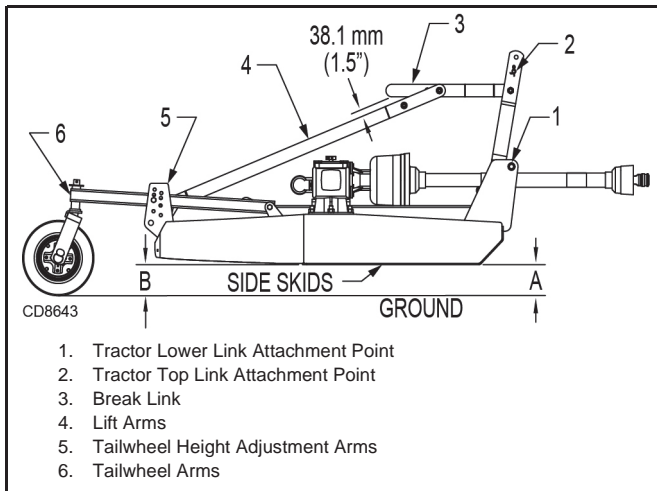

Figure 9. Cutting Height Adjustment
Loosen the jam nut on the attitude rod that runs from the tongue to the tailwheel. Adjust rod in or out until position B is approximately 6.4 to 12.7 mm (1/4 to 1/2 inches) more than position A. Refer to Figure 9.
Adjust tractor 3-point hitch to obtain a distance of 69.9 mm (2-3/4 inches) at position "A" to obtain a 101.6 mm (4") cutting height. See Figure 9.
Adjust top link to provide 38.1 mm (1-1/2") of clearance between the break link (2) and the rear lift links. See Figure 9. This clearance will allow the cutter to float over uneven terrain.